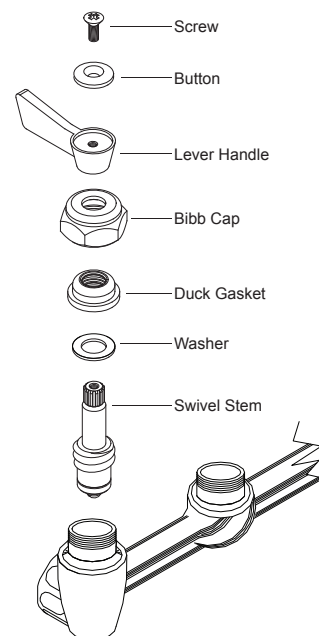

Fig.2 (Installation of Swivel Stem)
4. Insert new swivel stem valve (see Fig.2) into the control valve body inlet. Make sure swivel stem valve is closed.